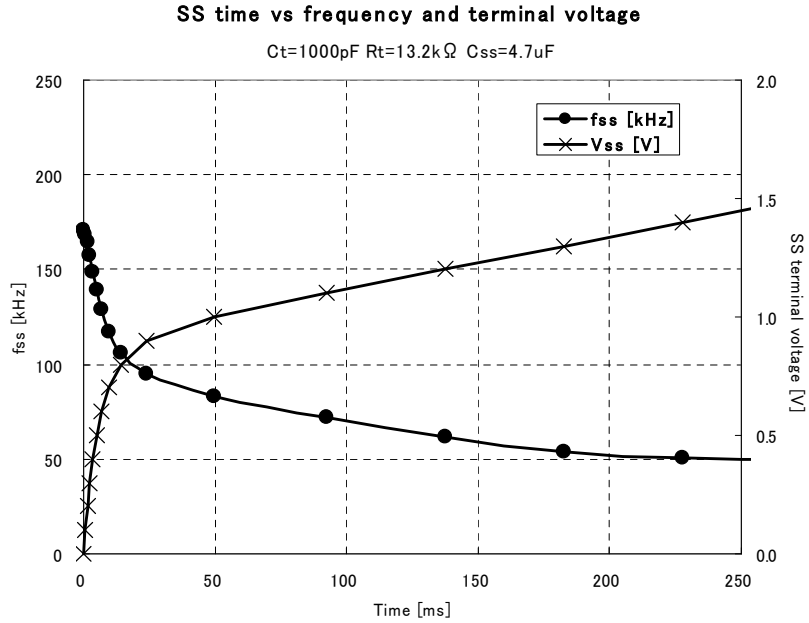

Fig.13. fss characteristics
Tentative value of soft start timing capacitor **Ccss**(init) is obtained from approximate formula(5). **tss** is the time period of which the frequency stabilizes at fmin after VCcss reaches around 0.8V. Correct value of tss, soft start time period, is obtained from formula(6) using actual value of Ccss. Characteristics of **Ccss** voltage vs operating frequency at **Ccss** = 4.7uF (**tss** = 200ms) is shown in Fig.13.